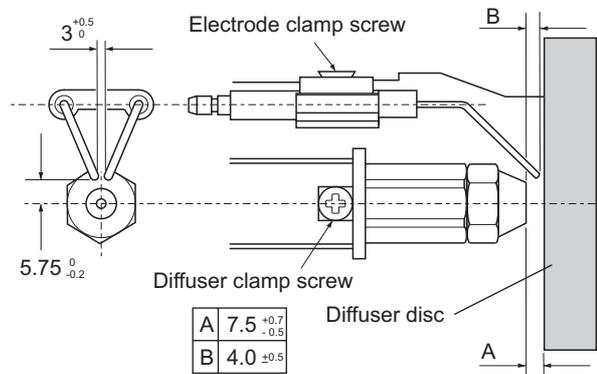

Fig. 31
- Check the electrode and diffuser settings** - Fig. 31
To adjust the diffuser disc: Loosen the diffuser clamp screw and slide the disc along the nozzle holder to achieve the gap 'A' in Fig. 31, tighten the screw.
To adjust the electrodes: Loosen the electrode clamp screw and move the electrode unit to achieve the gap 'B' in Fig. 31, tighten the screw.